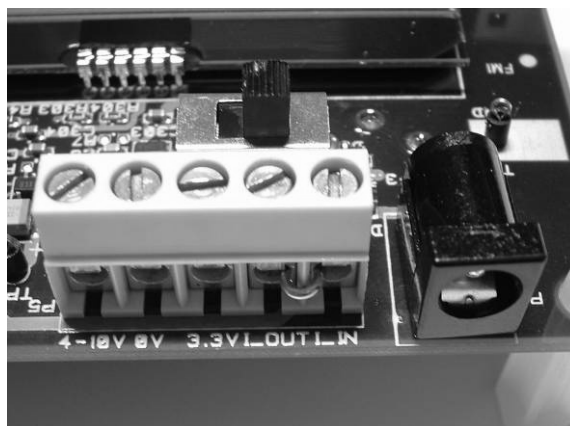

Figure 1. Power terminal block
- DC power from a laboratory power supply or battery eliminator power supply. The DC jack connector accepts standard DC jack power connectors with a 2.5mm center pin. The center pin is used for the positive voltage, and the sleeve for ground. If a laboratory power supply is used, ground should be connected to the 0V terminal on the power terminal block (see Figure 1).